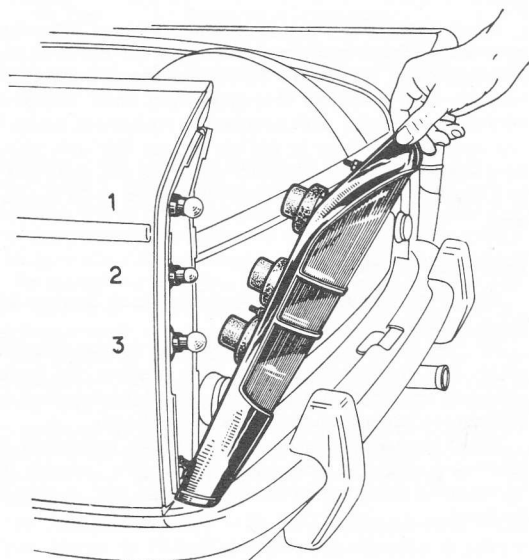

FIG 11:9 An early type rear light assembly
- 3 Refer to FIG 11:6 and check that the clearance between the pinion and the front stop is 1 to 2 mm (.04 to .08 inch).
Key to Fig 11:9